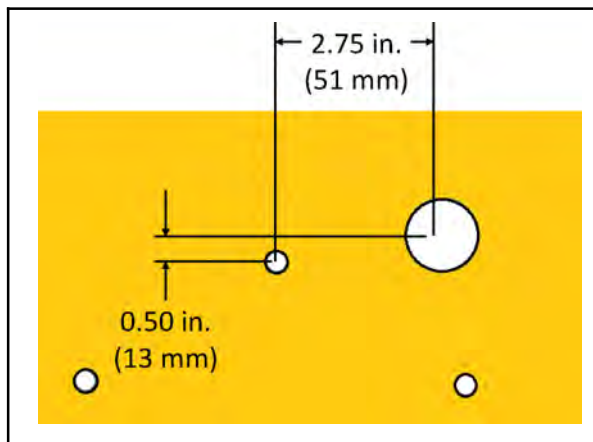

FIG. 9
6. Measure and mark a location for the harness routing hole onto the front shroud. (Fig. 9)
7. Drill a 0.886 in. (22.5 mm) hole for harness routing completely through the front shroud. (Fig. 9)